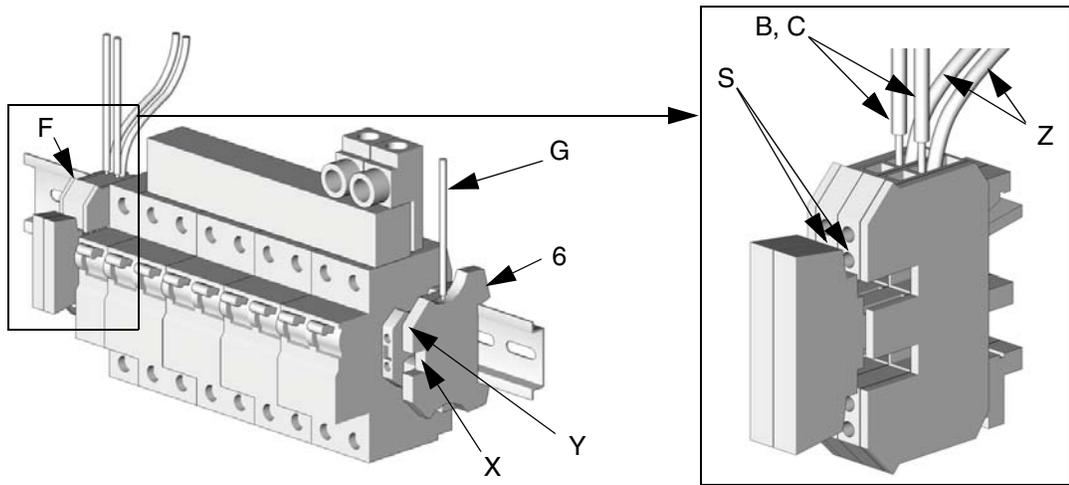
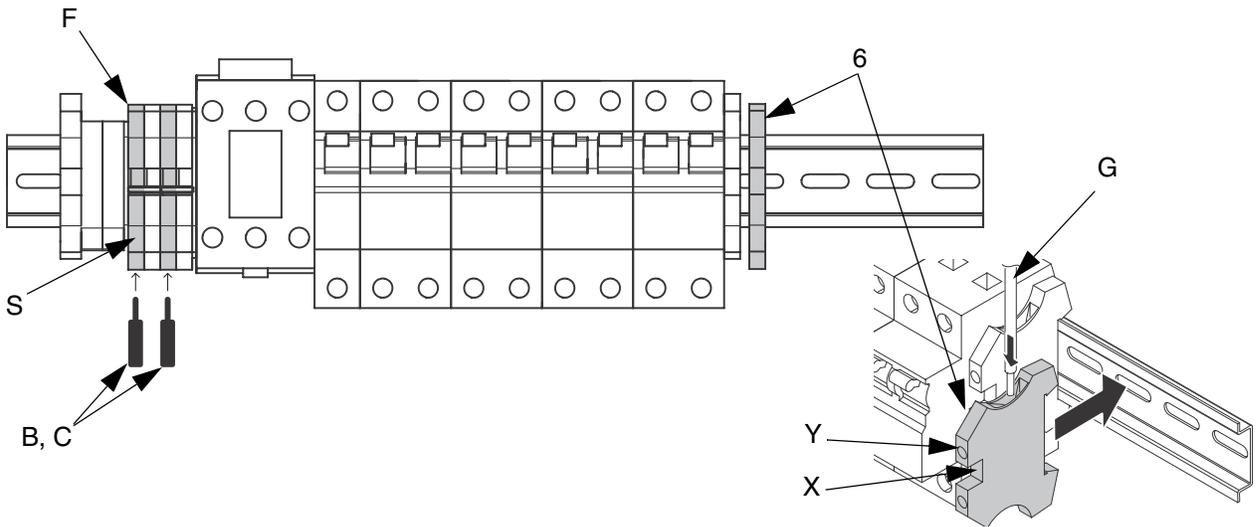
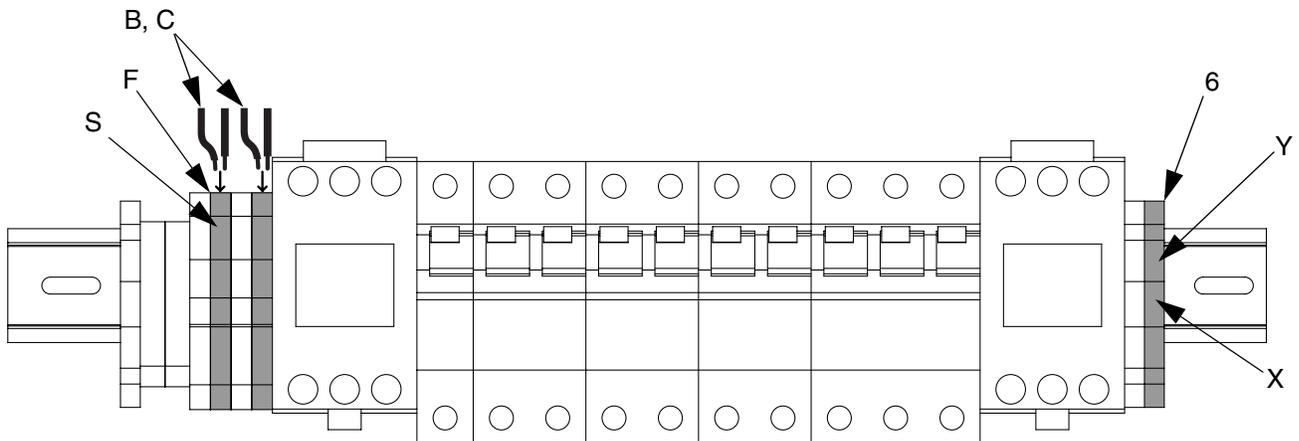

FIG. 1: Electric Reactor DIN Rail Style 1
FIG. 2: Electric Reactor DIN Rail Style 2
FIG. 3: Hydraulic Reactor DIN Rail Style 3
6. Find the DIN rail inside of the Reactor cabinet. See FIG. 1, FIG. 2, or FIG. 3 on page 5.
7. *Electric Reactors only,* see FIG. 1 and FIG. 2 on page 5 to identify whether your system uses style 1 or style 2 of DIN rail.
8. Insert green grounding wire (G) from control box into grounding terminal block (6) supplied with kit, then tighten screw (Y) to secure wire.
9. Install grounding terminal block (6) onto right end of DIN rail then tighten center screw (X) to secure in place. See FIG. 1 for DIN rail style 1 or FIG. 2 for DIN rail style 2.
10. *For hydraulic Reactors,* loosen screws (S) then insert black power wires (B, C) into the top of the highlighted terminal blocks (F) shown in FIG. 3. Tighten screws (S).
For electric Reactor DIN rail style 1, insert black power wires (B, C) into the bottom of the highlighted terminal blocks (F) shown in FIG. 2. Tighten screws (S).
For electric Reactor DIN rail style 2, loosen screws (S) then insert black power wires (B, C) into same slots as existing wires (Z) as shown in FIG. 1. Tighten screws (S).